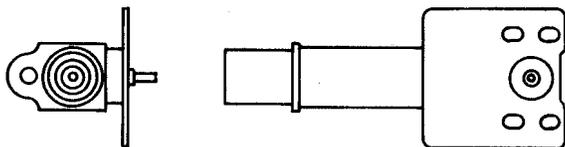

Fig. 4—504A Jack
2.04 504A: The 504A (Fig. 4) is a coaxial-type jack. One end is designed for a 358A plug. The other end is designed for a soldered connection to the center conductor. This jack is not designed for a coaxial cable connection. It is tested at 2000 volts ac and is used in the 33A equalizer.